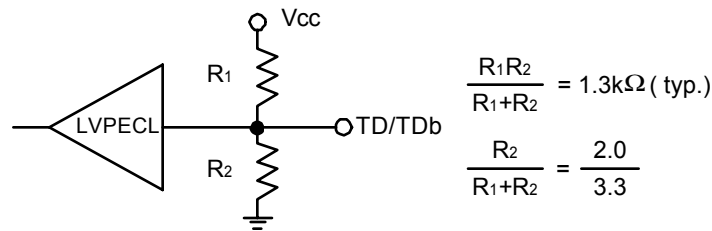

Figure 13. Internal Bias of Input Terminal
4. Input Terminal is biased internally, as shown in the figure13. 5. 20-80%.